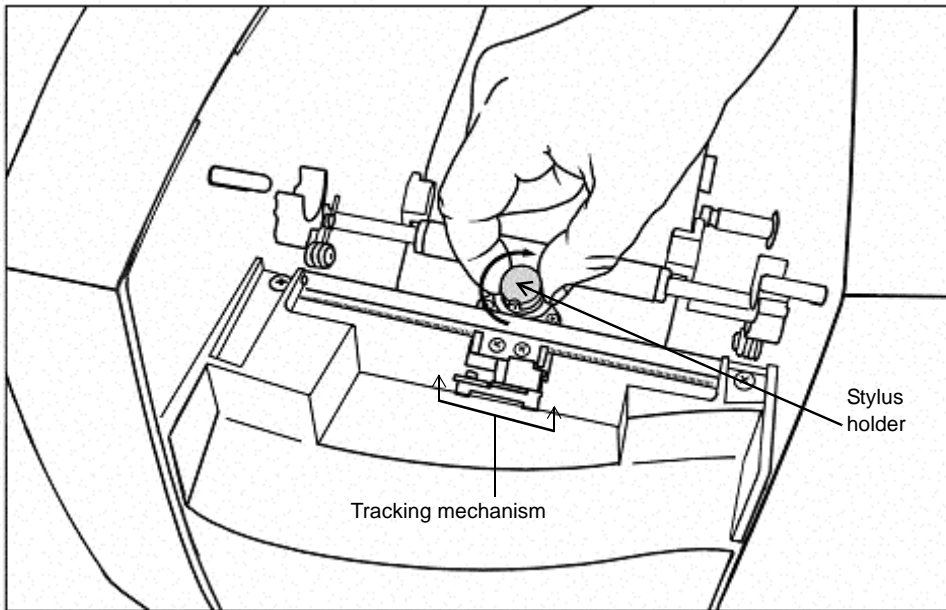

Figure B-1. Removing the stylus holder.
- Step 3:** To disengage the stylus holder, turn it one-half turn (180°) clockwise, as shown in Figure B-1. The tab that engages the holder in the mechanism becomes visible when the holder is disengaged.